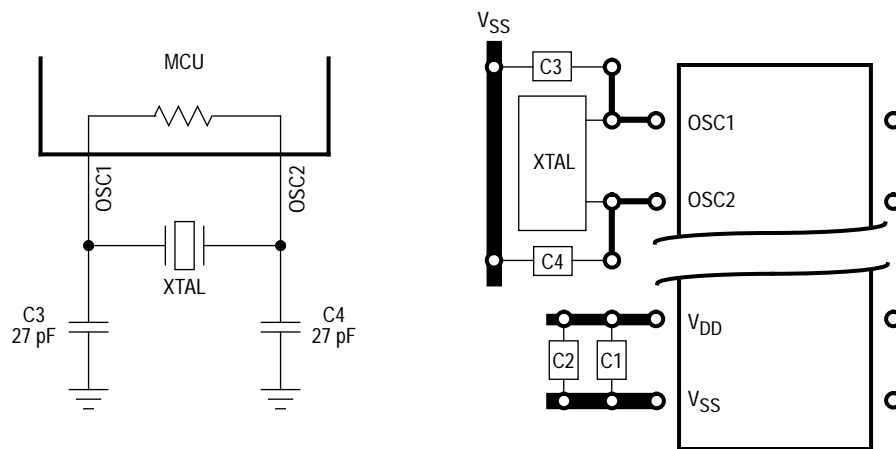
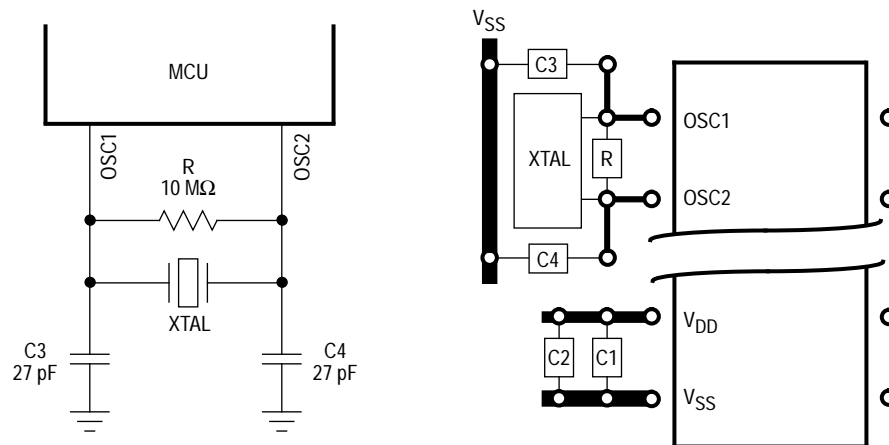

Figure 1-4. Crystal Connections with Feedback Resistor Mask Option
Figure 1-5. Crystal Connections without Feedback Resistor Mask Option
1. A crystal as shown in Figure 1-4 and Figure 1-5
Figure 1-4 and Figure 1-5 show a typical crystal oscillator circuit for an AT-cut, parallel resonant crystal. Follow the crystal supplier's recommendations, as the crystal parameters determine the external component values required to provide reliable start-up and maximum stability. The load capacitance values used in the oscillator circuit design should include all stray layout capacitances.